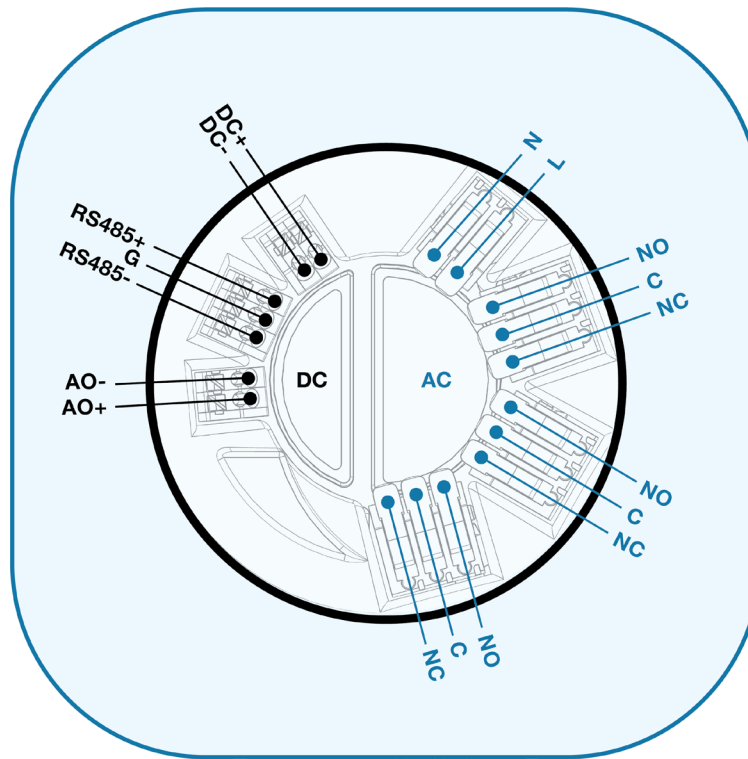

Figure 2: HY-GUARD Wiring
- The smaller hole on the opposite side is for DC wiring only (see Figure 2).
2. Connect wires to the appropriate connector (see Figure 2).
NOTE: Ensure the device wiring matches the diagram provided in Figure 2. If you are uncertain if the device is functioning properly, use the Communication Test Mode (2.4) to validate the system.